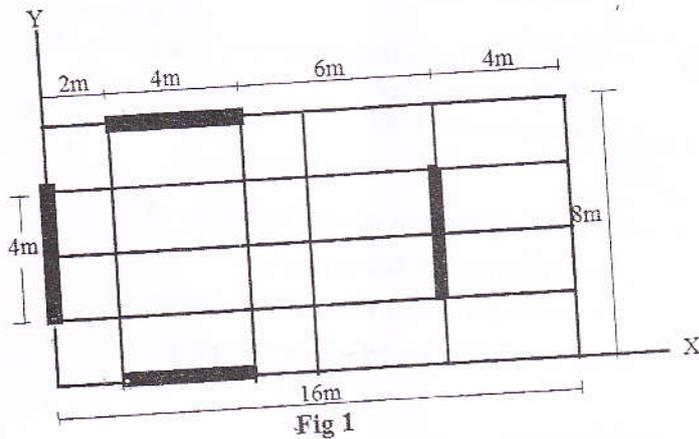

Fig 1
- b) A simple one-story building having two shear walls in each direction is shown in Fig.1. Locate center of mass and center of rigidity and also obtain design eccentricity as per torsion provision in IS1893-2016. 08 L4 CO2